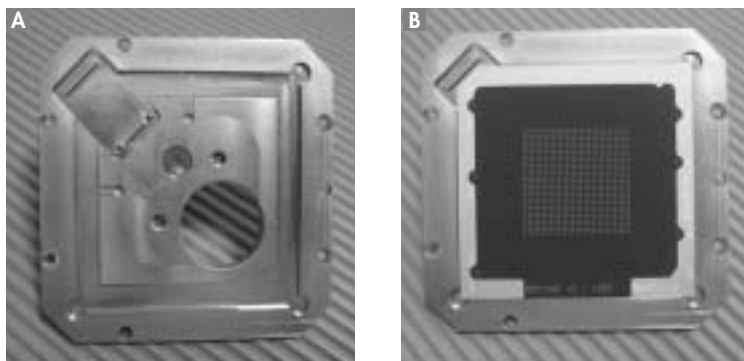

Figure 6 A Mass-Spec-Turbo Chip Holder 1 B with chip mounted.
1. Insert Mass-Spec-Turbo Chip into the Chip Holder (see Figure 6).